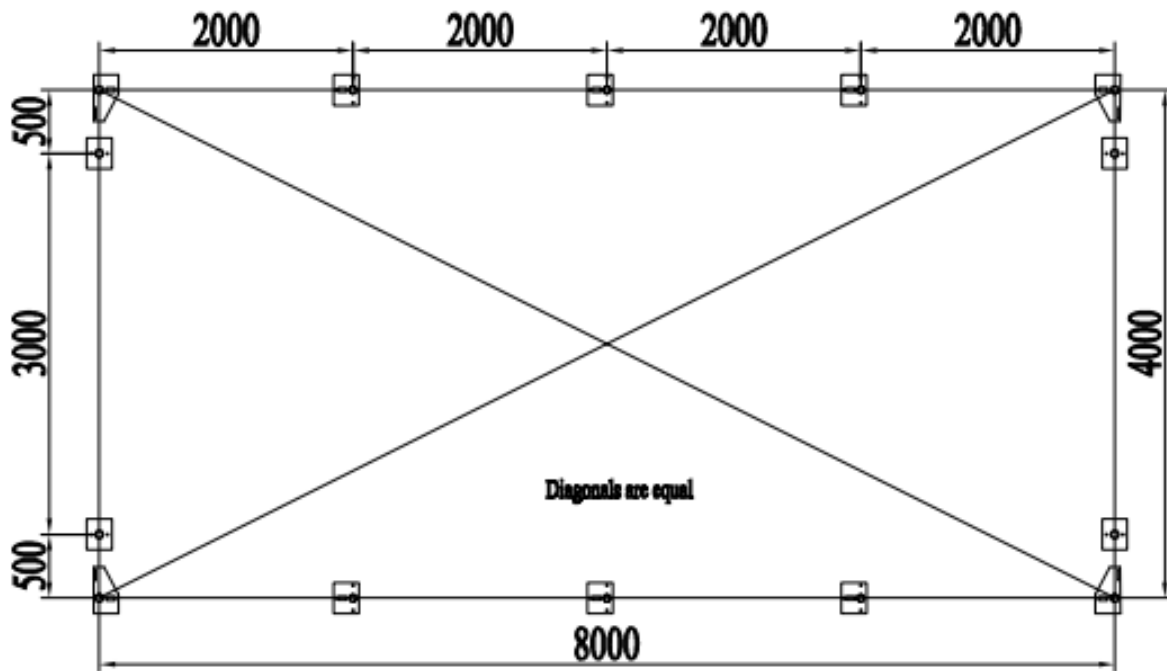

Figure 3 Position of Base Flanges
Begin by determining exact location of the four (4) corners of the building. Mark front edge and side-to-side width of assembly on ground. Drive alignment stakes into the ground outside of the markings, and draw alignment strings along both ends and sides of the building to the dimensions shown in Figure 3. The outline of the strings will represent the final location of the base flanges. The initial location of each Corner Base Flange (5R & 5L) is critical to the alignment and fit of the frame components and cover.